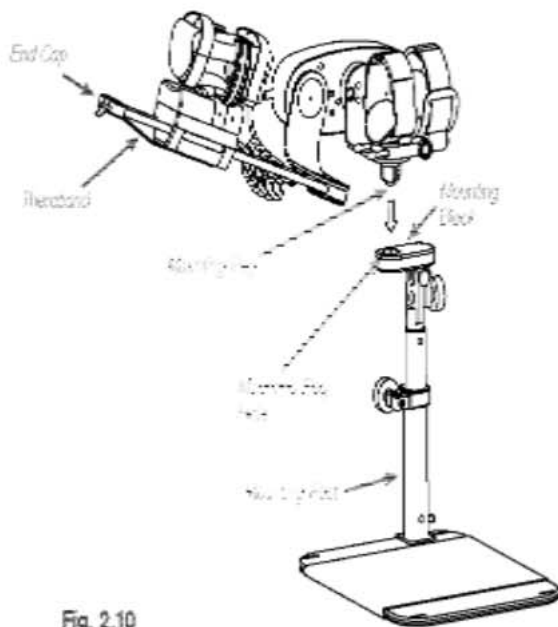

Fig. 2.10
- Attach the CPM device to the mounting post. (See Fig. 2.10)